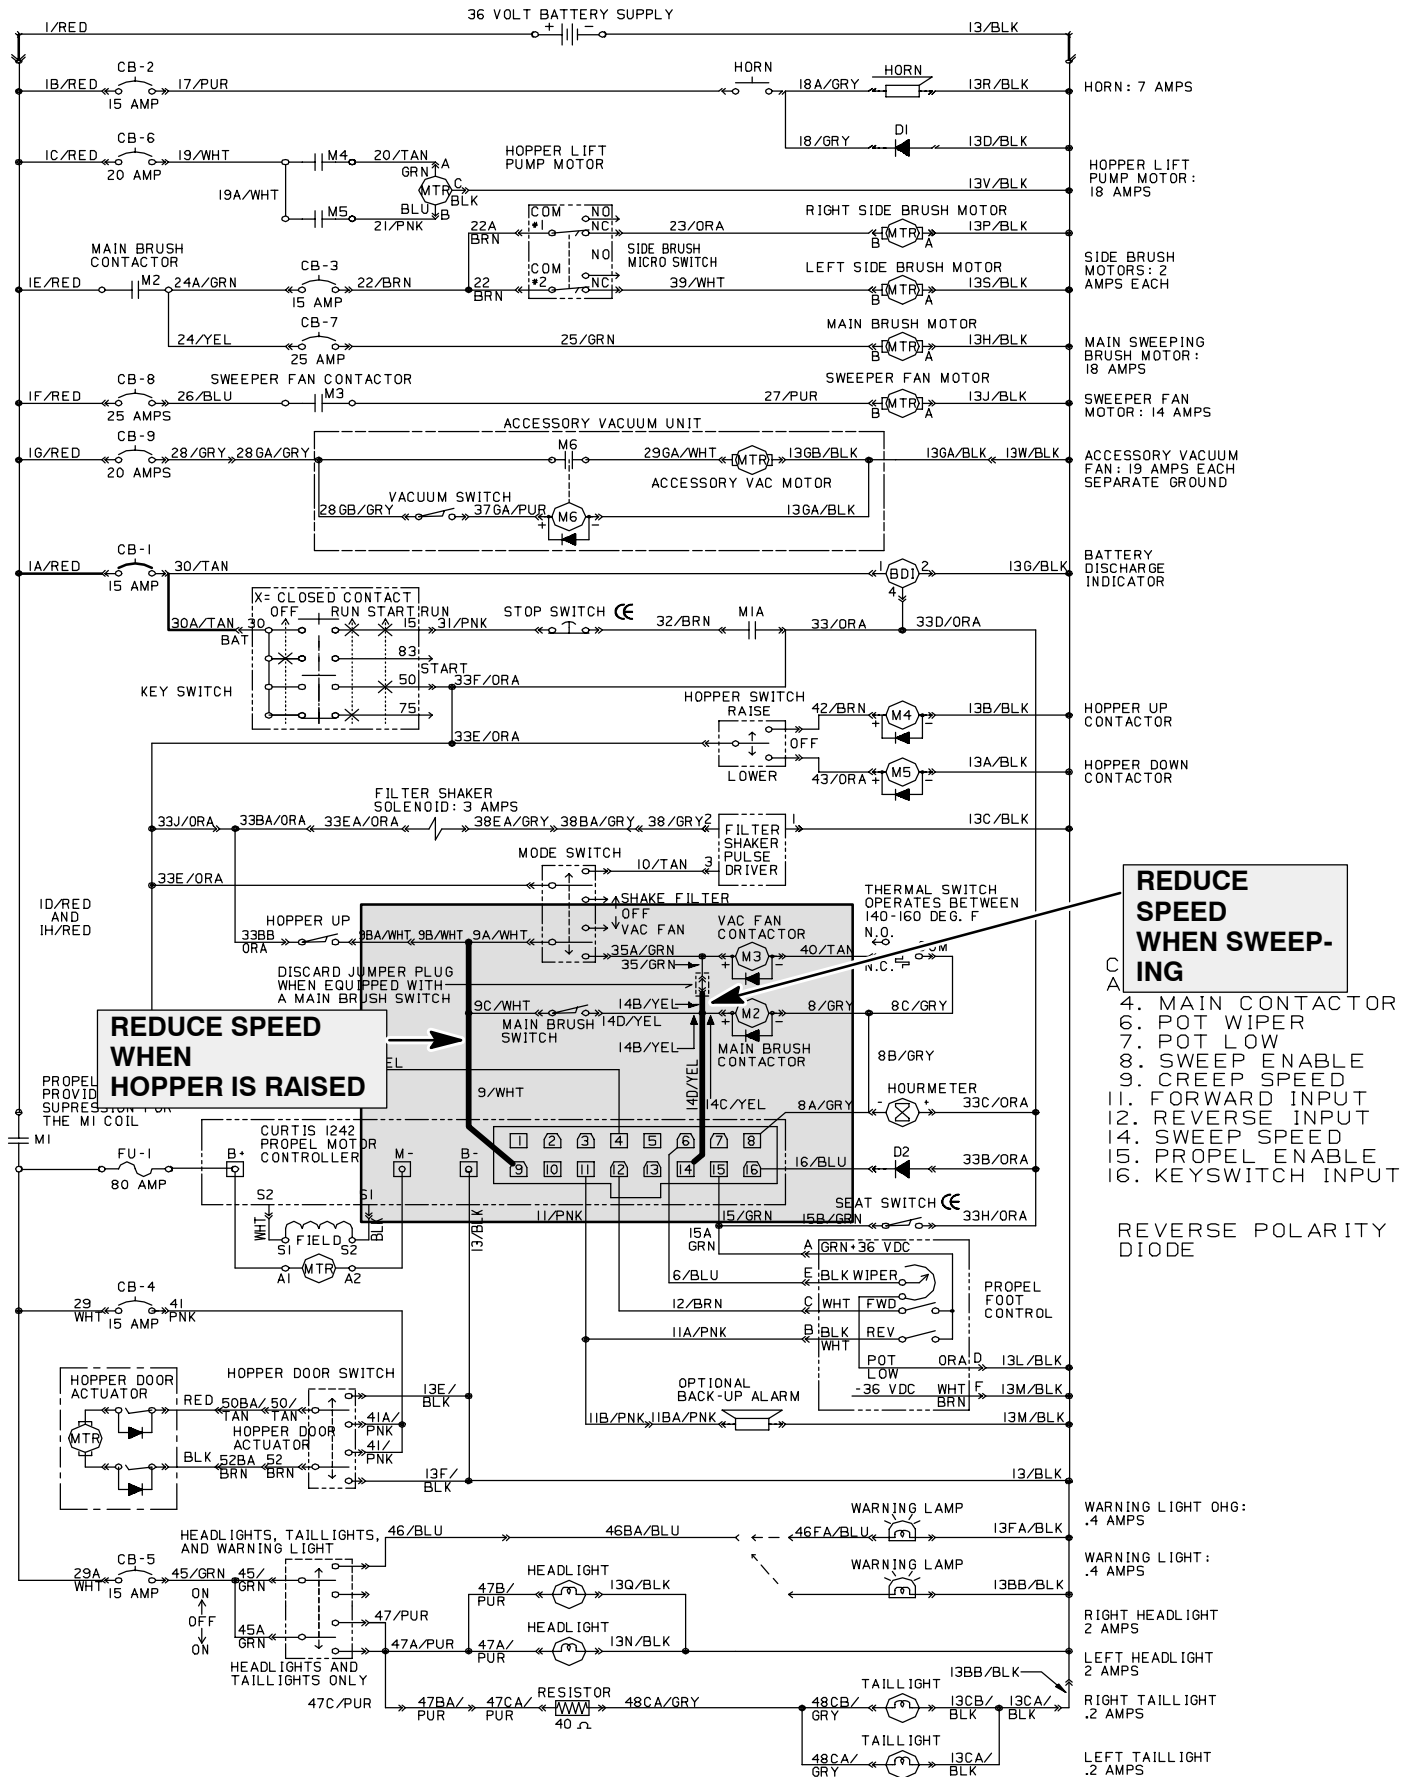

Fig. 7
4. Mode select inputs. (see Fig. 7)